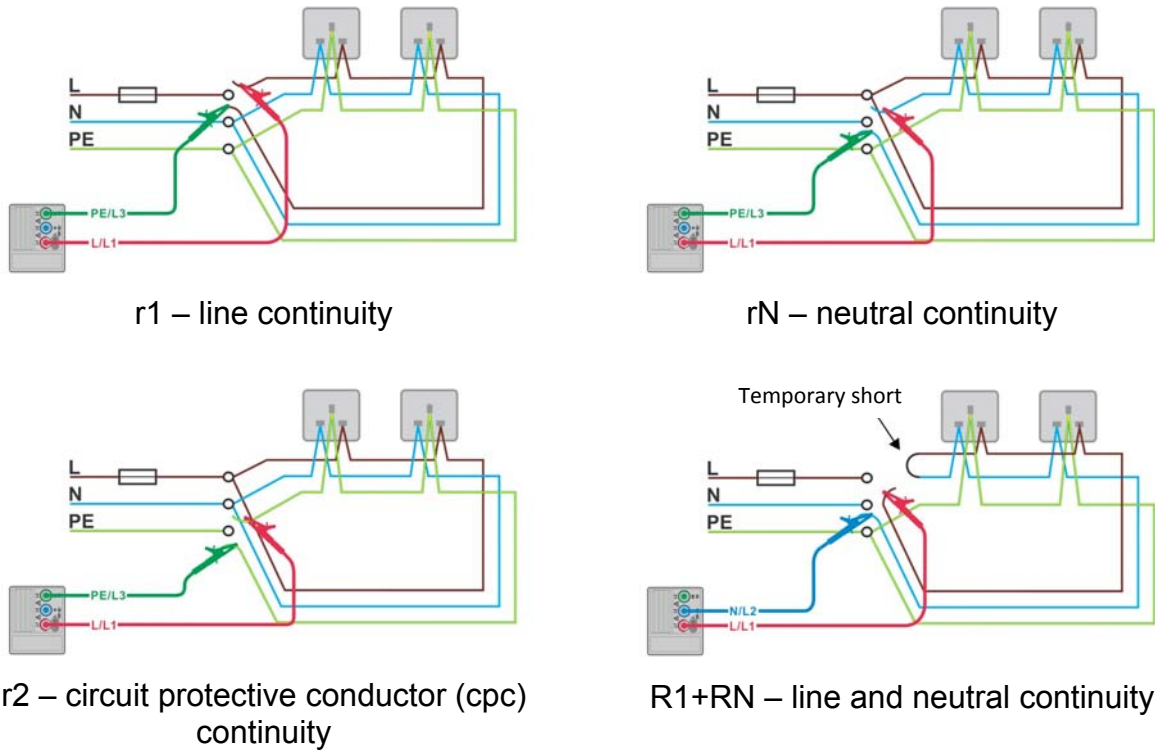
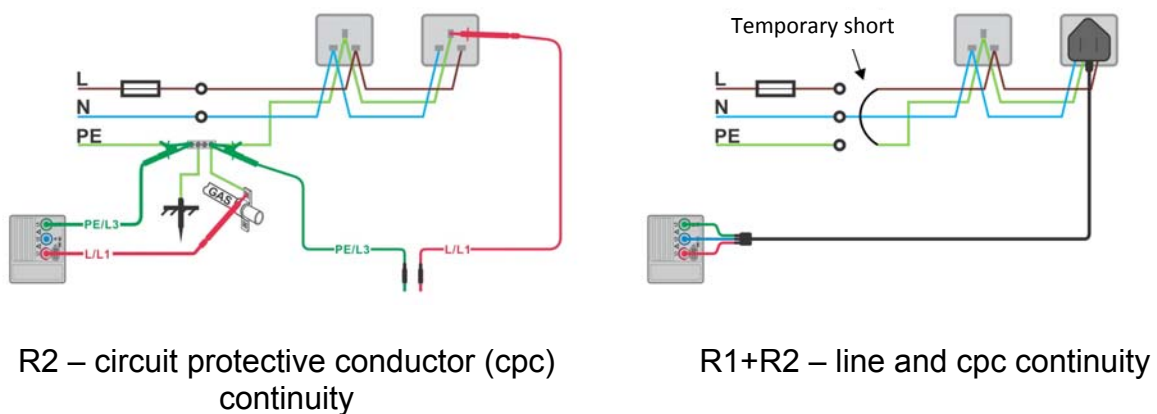

Figure 5.10: Connections for testing the r_1 , r_N , r_2 and R_1+R_N sections of the wiring in ring circuits
Figure 5.11: Connections for testing the R_2 and R_1+R_2 sections of the wiring in final circuits
- ❑ **Connect** the test leads to the installation wiring to be tested (see *Figure 5.10* and *Figure 5.11*:).